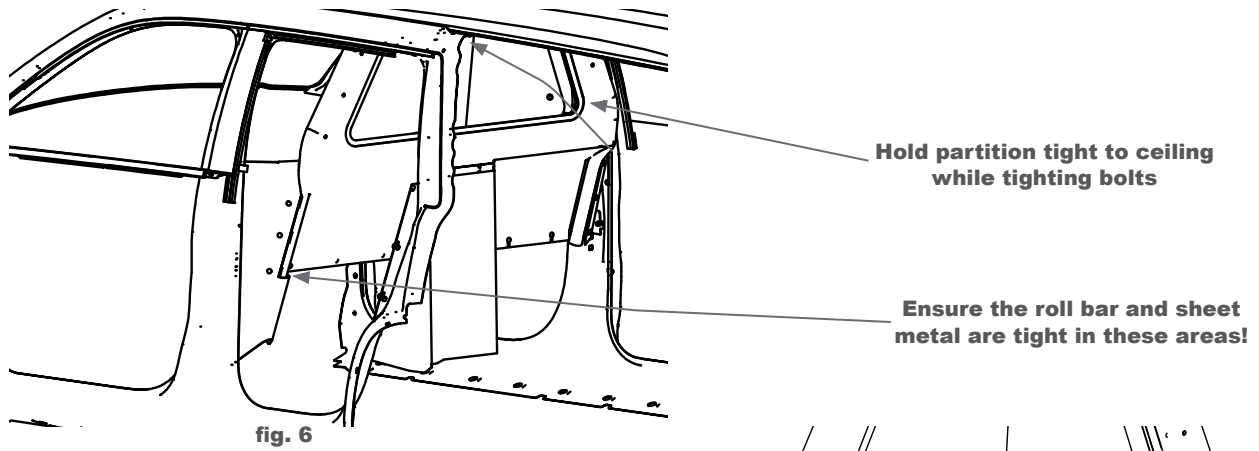

fig. 6
- C. Have one person hold the partition tight to the ceiling of the vehicle while the other person tightens all the loose mounting screws on the panels. Be sure the roll bar fits tight inside the sheet metal panels with no gaps. (Refer to fig. 6 )